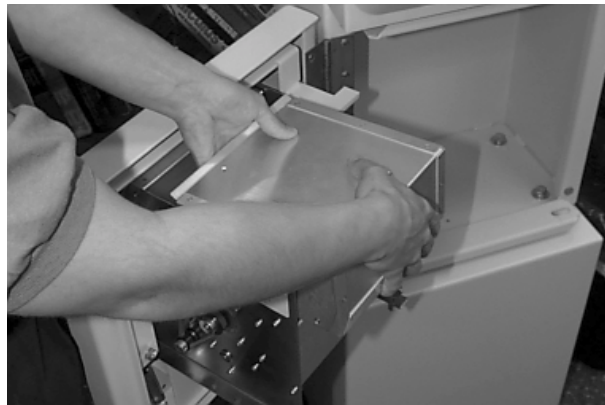

Figure 4-3. Lift cassette from dispenser chassis.
- Pull the cassette out slightly, so that you can place your free hand around the front of the cassette opening. This is the feed end of the cassette. Apply pressure with your palm and curl your fingers around the bottom front edge of the cassette to prevent any remaining notes from falling out. Slide the cassette up and out of the dispenser chassis. (See Figure 4-3.)